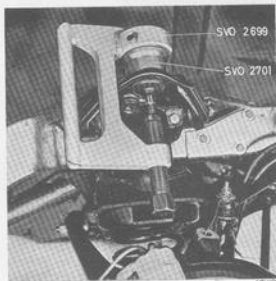

Fig. 6-23. Removing upper ball joint
3. Slacken but do not remove the nut for the upper ball joint. Knock with a hammer on the steering knuckle round the ball joint pin until it loosens from the axle. Remove the nut and suspend the upper end of the axle with a wire to avoid straining the brake hoses. See Fig. 6-23.
4. Loosen the nuts for the control arm shaft a $\frac{1}{2}$ turn. Lift up the control arm slightly and press out the ball joint with press tool 2699 and sleeve 2701, see Fig. 6-23.